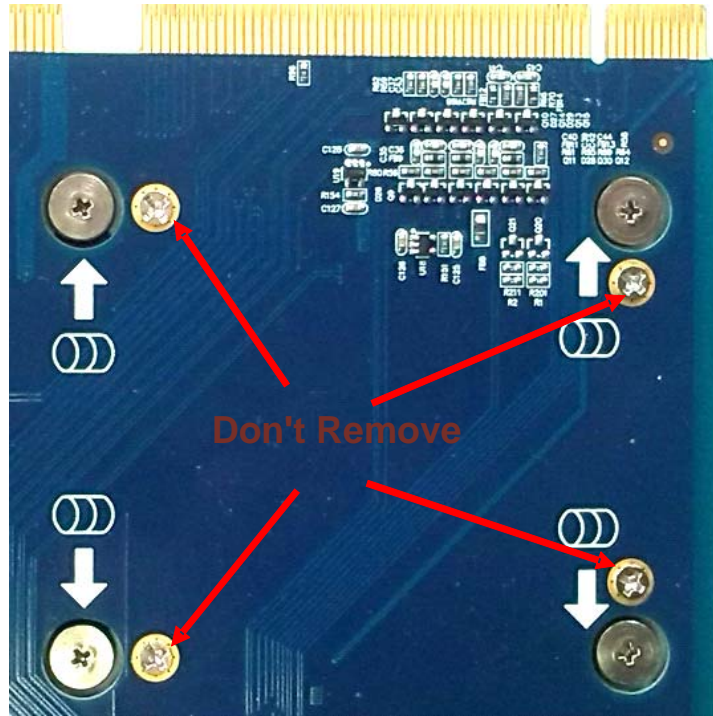

Figure 2-20 HD Screws Fixing on SCU08 and the Like
Actually, the steps to install and remove the hard disk onto and from these SCUs are similar to what described in 2.3.1 and 2.3.2. The main difference is that SCU08 and the similar kind use the HD damping screws (as pointed by several red arrows in Figure 2-20) to fix the hardware disk while the old SCU products use the common 3mm screws.
- 2) Do not remove the screws as pointed by the red arrows in Figure 2-20, lest the HD bracket might drop off and the HD connect wire might be damaged.